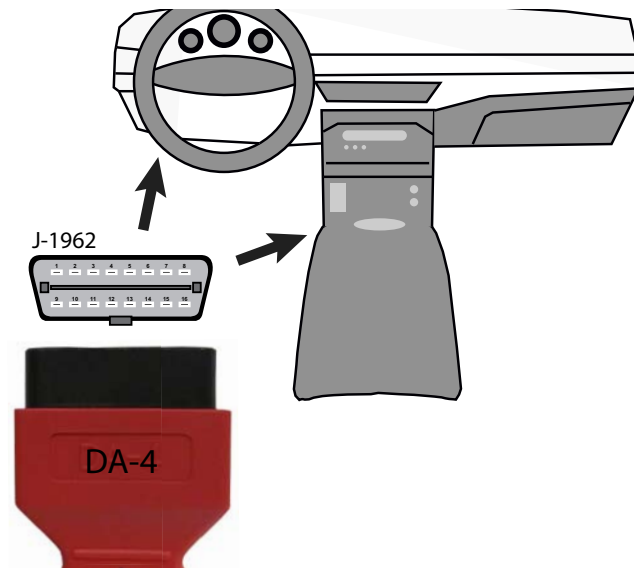

Figure 4-4 DA-4 data cable (16-pin end) connection to vehicle DLC (typical DLC locations)
4. Connect the 16-pin (J-1962) end of DA-4 cable (Figure 4-4) to the vehicle DLC.